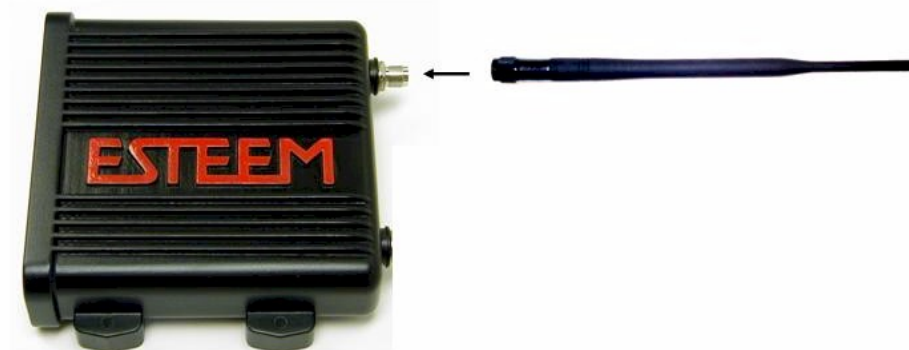

Figure 3: Antenna Configuration Diagram
1. Connect the antenna to the antenna connector on the ESTeem Model 195Ea (Figure 3). For a single antenna use Antenna Port A and connect both if using dual antennas.